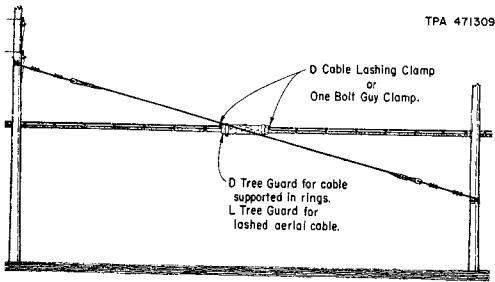

Fig. 12—Tree Guard Used to Protect Cable From Contact With Guy
6.01 To avoid contact between the cable and a guy, place a tree guard on the cable as shown in Fig. 12.